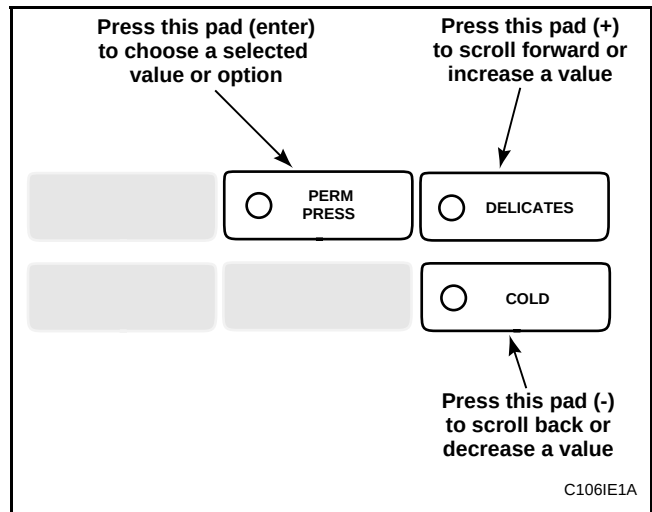

Figure 84
5. Press the DELICATES (+) or the COLD (-) keypad to increase or decrease the current three digit to “000” or “128”. See **Figure 84**.